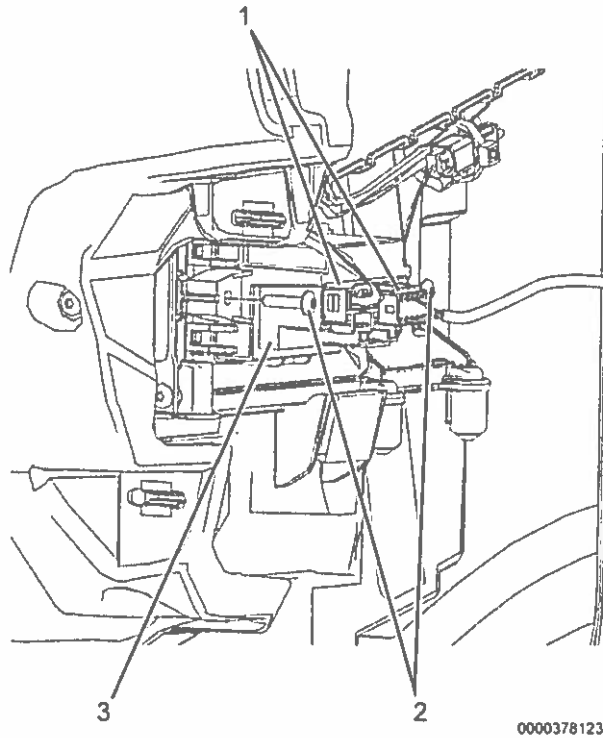

Figure 3. Linear Power Module.
- 1. LPM electrical connector (2)
- 2. Screw (2)
11. Disconnect two LPM electrical connectors (Figure 3, Item 1).
12. Remove two screws (Figure 3, Item 2) securing LPM (Figure 3, Item 3), and remove LPM.